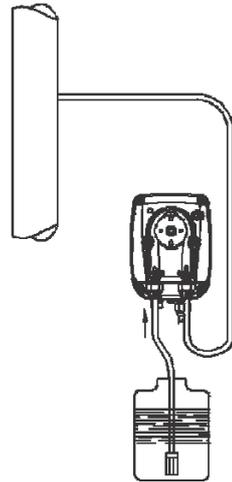

Fig. 5
- c. - Locate the pump as shown in fig. 5 bearing in mind that it may be installed either below or above the level of the liquid to be dosed, though the level difference should not exceed 2 meters. In case of liquids that generate aggressive vapors, **don't** install the pump above the storage tank unless the latter is ermetically sealed.